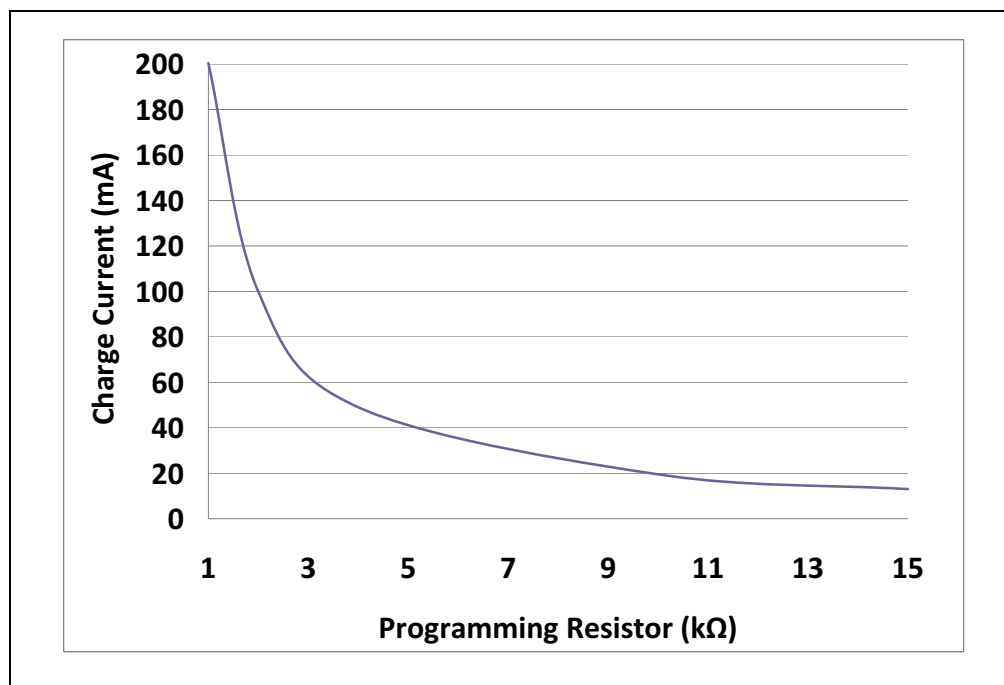

FIGURE 1-1: Resistor vs. Charge Current.
7. Fast Charge Current can be programmed with various resistors that are based on Figure 1-1.